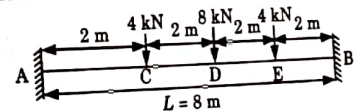

Fig. 10.
b. Analyse the fixed beam shown in Fig. 10, using strain energy method. And draw the BMD.